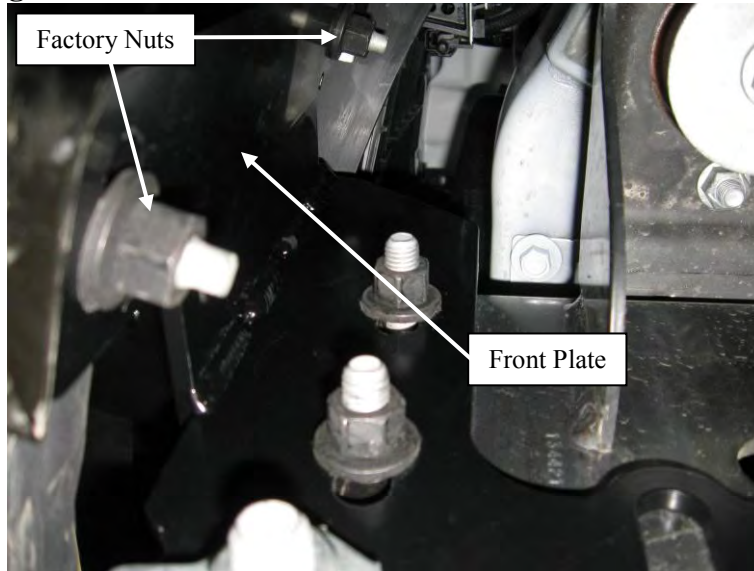

Figure 10: Large Frame Carrier: Bumper Factory Nut Positions.
10. Adjust the bumper to center it left to right on vehicle. Flares should line up evenly with the bumper ends on both sides. Tighten all 4 factory nuts that attach the bumper to the frame extension Front Plate and torque to 50 lb. ft. (67.8 N-m). See **Figure 10**.